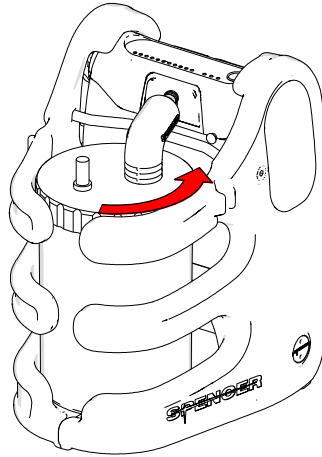
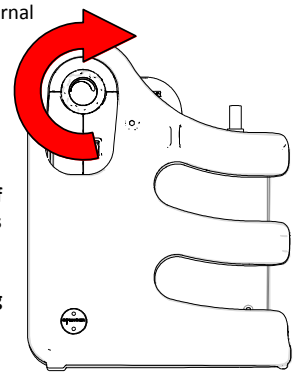

Fig. 10
Fig. 20
2. Connect the assembly filter group/canister to the suction unit by turning the canister and the assembly filter to facilitate insertion (fig.10 e 11).
2. Occlude the patient end of the tubing, then adjust vacuum level from 50 to 550 mmHg by turning the vacuum regulator knob clockwise to increase and counter-clockwise to decrease the vacuum (fig. 20). Release and occlude once more to confirm setting. The desired level of vacuum can be viewed on the LED display (fig. 10).
3. desired level of vacuum can be viewed on the LED display (fig. 10).